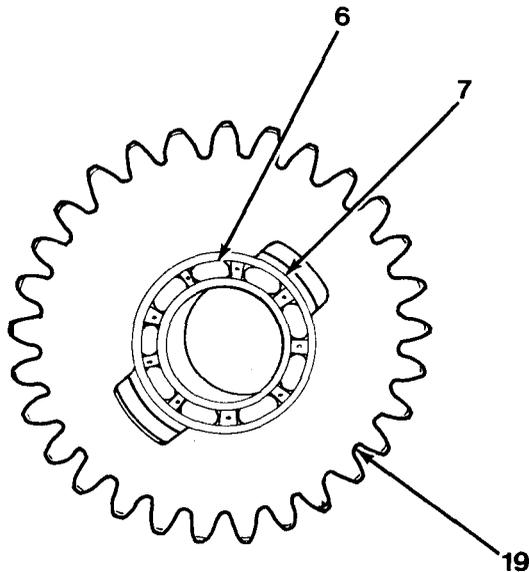

Figure 11-11
7. Install snap ring (8).
8. Install snap ring (7) into gear and hub welded assembly (19, Figure 11-11).